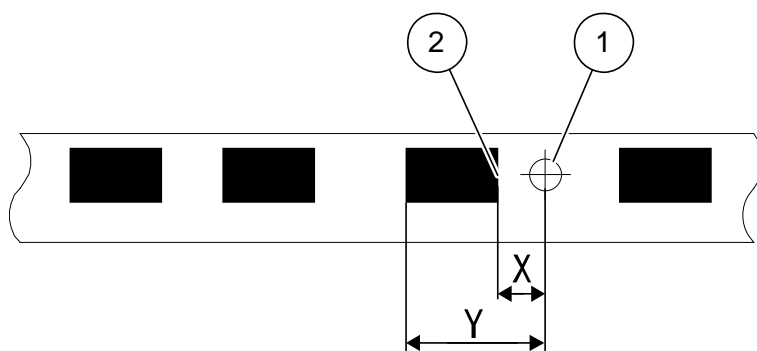

Figure 7-84 Sensing Zone
(1) Color mark sensor (2) Right border of the rectangle
For example: If material belt stays at the position shown in Figure 7-84, set "Sensing Zone" value between X and Y, the color mark sensor will detect the right border line (2) of the white to black rectangle within the sensing area.